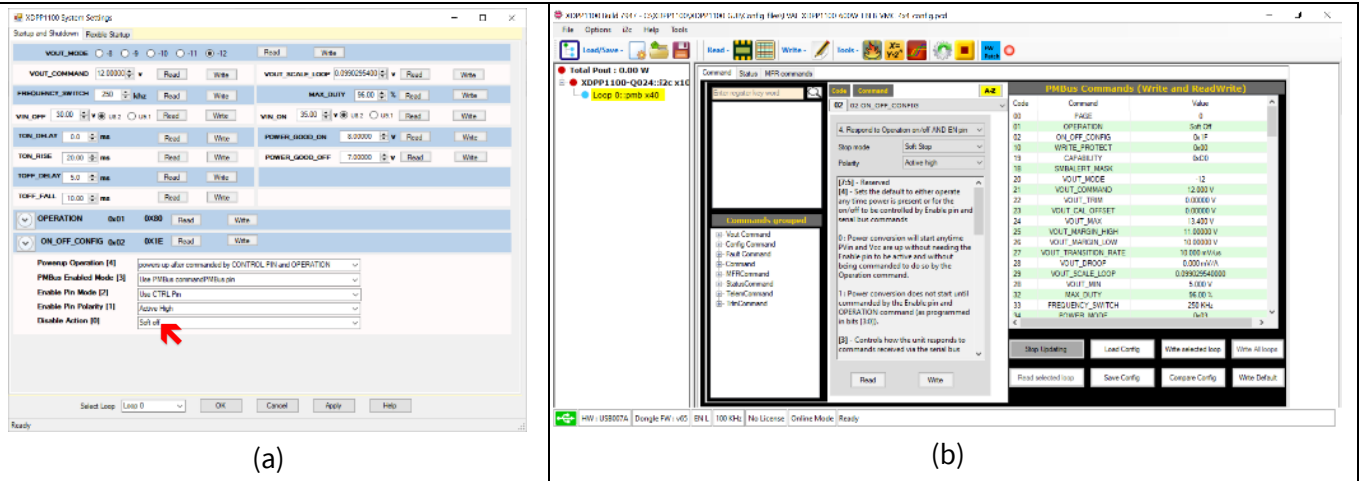

Figure 25 **TOFF_DELAY** feature
- **TOFF_DELAY** command sets the time, in ms, from when a stop condition is received (as programmed by the ON_OFF_CONFIG command) until the unit stops transferring energy to the output (**Figure 25**). Write the **Soft Stop** option for the **Stop mode** in the **ON_OFF_CONFIG PMBus** (Code 02) command to take advantage of **TOFF_DELAY** for soft shutting down (**Figure 25**).